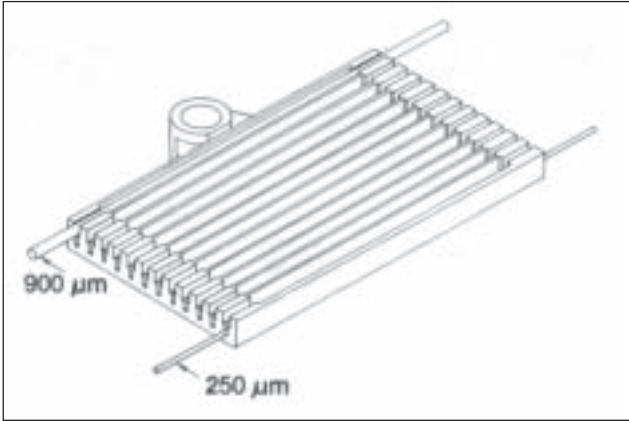

Figure 8
10.1 If the splice tray utilizes a step slot splice organizer (Figure 8), load the organizer using the following procedure.
10.2 The step slot splice organizer is designed to accommodate 250 μm and 900 μm fibers. Figure 8 illustrates both fiber sizes. Note the 250 μm fibers lie in the lower grooves of the organizer.